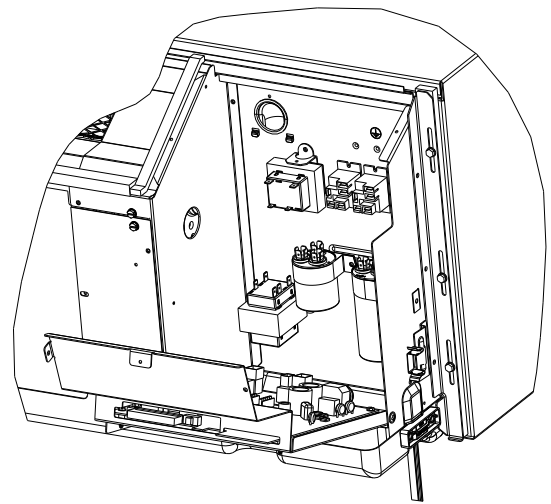

Figure 11
2. Pull and tilt control panel forward, being careful not to pinch any wires (Figure 11).